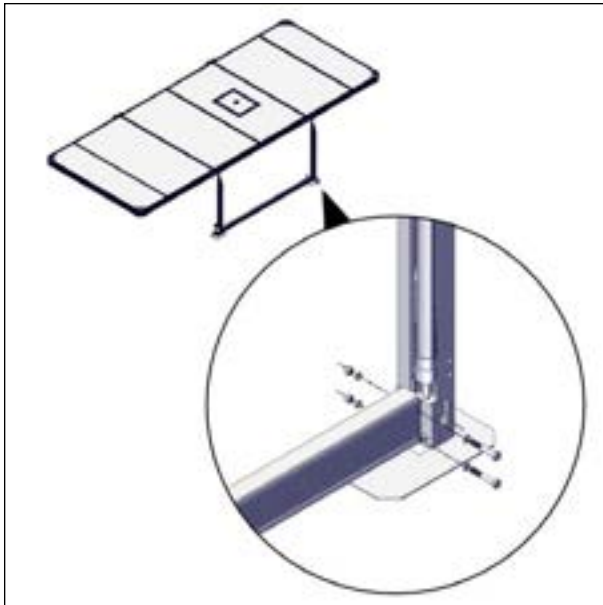

FIGURE 81: U-FRAME INSTALLATION
- Install the U-frame over the drive shaft. The U-frame is attached to the post bracket of the motor and non-motor jacks. Fasten in place using the hardware provided: four hexagonal 5/16" x 2" screws, four 5/16" nylon insert locknuts, and eight 5/16" flat nylon washers. Use a 1/2" (13 mm) socket wrench and spanner see Figure 81.